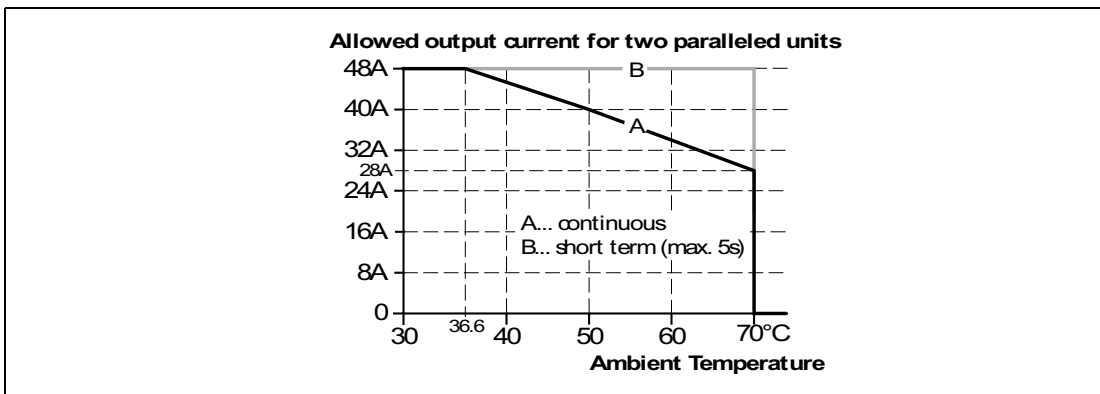
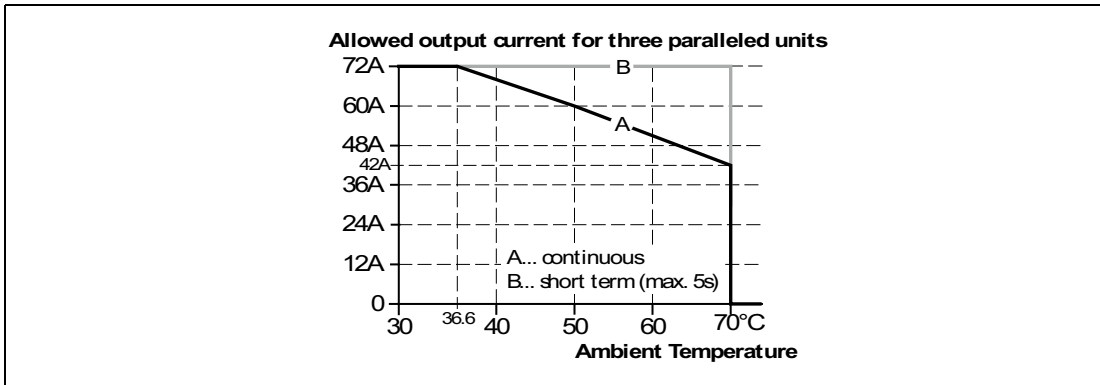

Figure 25.8 Output current vs. ambient temperature for two paralleled units
Figure 25.9 Output current vs. ambient temperature for three paralleled units
- Observe the temperature derating requirements of Figure 25.8 and Figure 25.9 for N+1 redundancy applications.